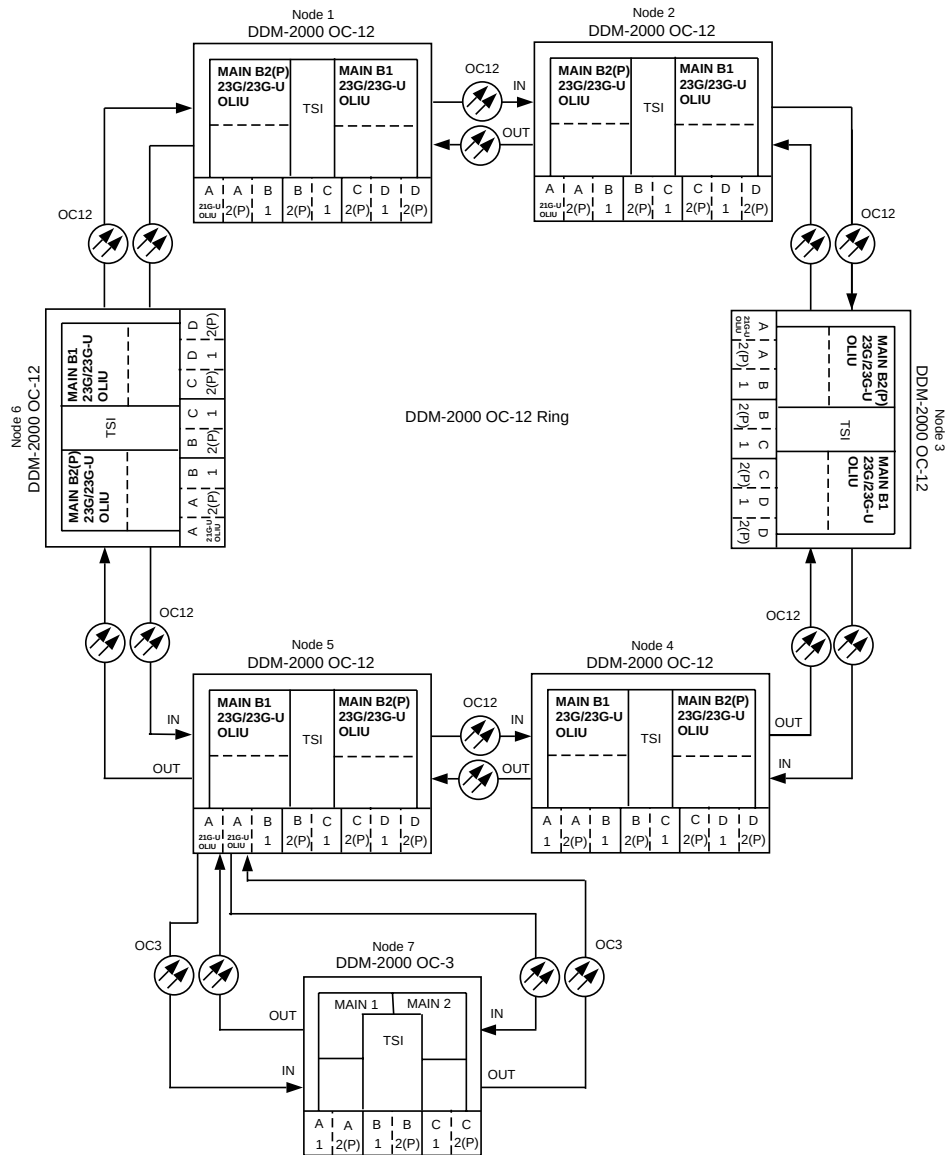

Figure 2. Example Single-Home Ring Configuration Connections
This single-homed ring configuration requires that the **FN-()-1 OLIU** on the OC-12 shelf connect to the **MAIN-1 OLIU** at the first OC-3 shelf from the OC-12 shelf. **MAIN-2(P) OLIU** at the OC-3 shelf (node) connects to the **MAIN-1 OLIU** at an adjacent OC-3 shelf (node). The **MAIN-2(P) OLIU** at the last OC-3 shelf on the OC-3 ring connects to **FN-()-2(P) OLIU** on the host OC-12 shelf. See Figure 2. This procedure will establish the ring configuration starting from the OC-12 host node (near end) to the first OC-3 node, then continuing to the next node until the final connection is made from the last OC-3 node back to the host OC-12 node.
At the near end, remove the optical loop from the **21G/21G-U/21G2-U/21D/21D-U OLIU** (for example in Figure 2, OC-12 shelf **FN-A-1**) associated with the optical span being established. At the other end of the optical span, remove the optical loop from the associated **OLIU** (for example, in Figure 2, OC-3 **MAIN-1 OLIU**).
2. Verify the host DDM-2000 OC-12 shelves (for example, Figures 2 and 3, nodes 4 and 5) are equipped with TARP Release 7 or later ring software. If not equipped with TARP Release 7 or later software, upgrade the DDM-2000 OC-12 host shelves with proper software. Verify that the DDM-2000 OC-3 shelf is equipped with TARP Release 13 or later software. **DLP-526**